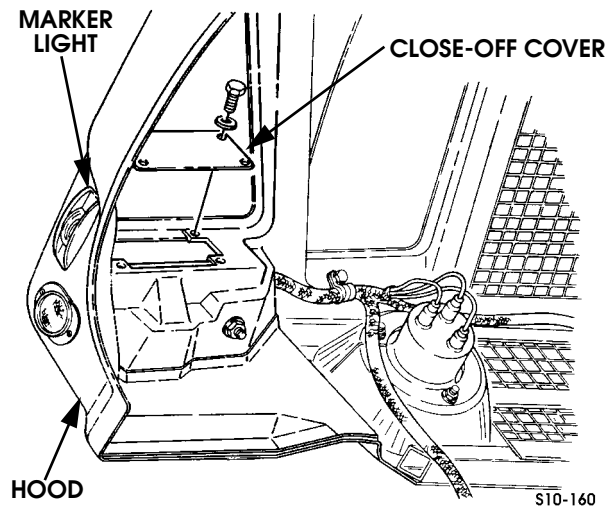

Figure 10-162: Close-Off Cover Location
1. Remove four screws, washers, and close-off cover from hood (Figure 10-162).
4. Secure close-off cover to hood with four washers and screws (Figure 10-162).